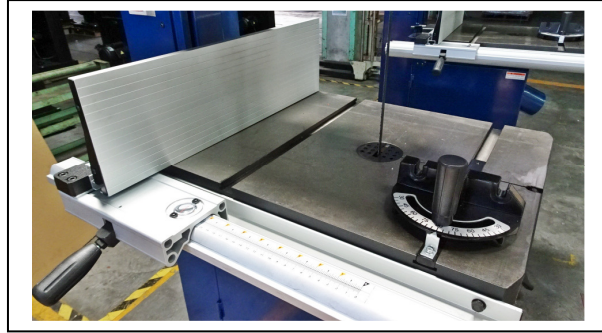

Figure 20
4. Tighten the clamp screw. (see Figure 20)